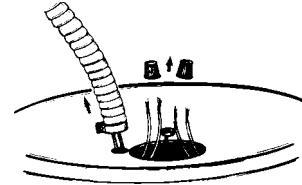

FIGURE 1.
- ④ Check again to make sure the electrical supply is turned "OFF" to the water heater. Then disconnect the electrical supply connection from the water heater junction box, see Figure 1.